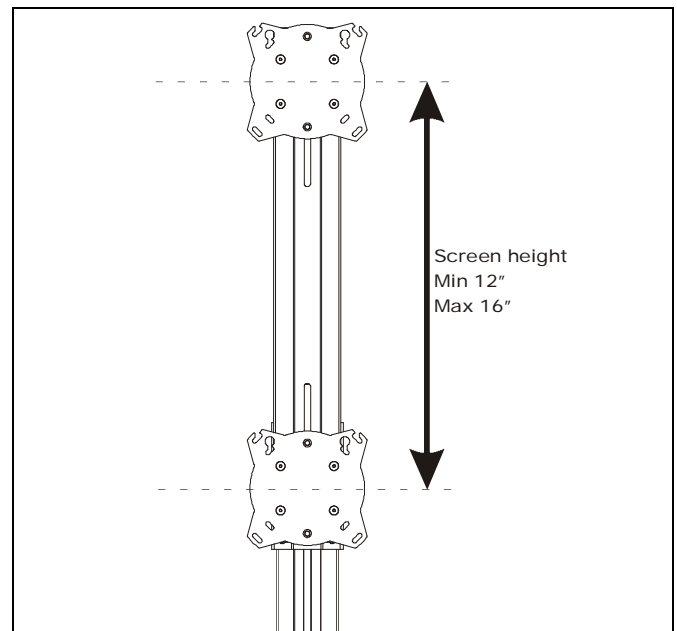

Figure 13
**IMPORTANT !** : In order to install displays with no gap in between displays, distance between faceplates must equal the height of each display. (See Figure 13)
Faceplates may be positioned a minimum of 12" apart and a maximum of 16" apart. (See Figure 13)